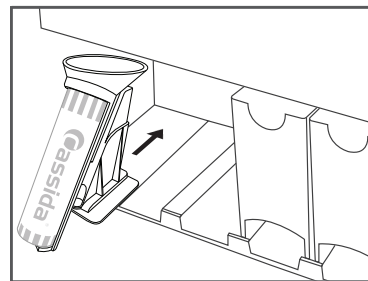

Figure 3 - Installing coin tube
4. Secure the coin tubes to the C300 by gently sliding each tube into the proper slot at the base of the machine as shown in Figure 3 and 4.